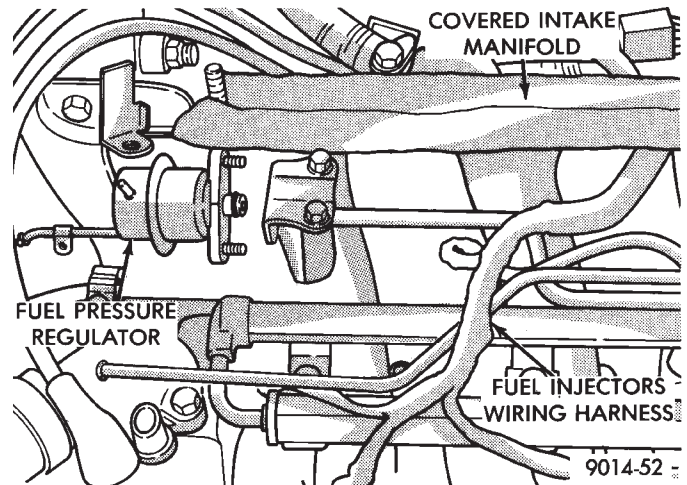

Fig. 12 Fuel Pressure Regulator to Fuel Rail Assembly
(5) Put the tip of each injector into their ports. Push the assembly into place until the injectors are seated in the ports.
(6) Install the (3) fuel rail attaching bolts and torque to 13 N•m (115 in. lbs.).
(7) Install fuel pressure regulator onto fuel rail. Install attaching bolts to intake manifold. Torque regulator nuts and bracket bolts to 10 N•m (95 in. lbs.) (Fig. 12).